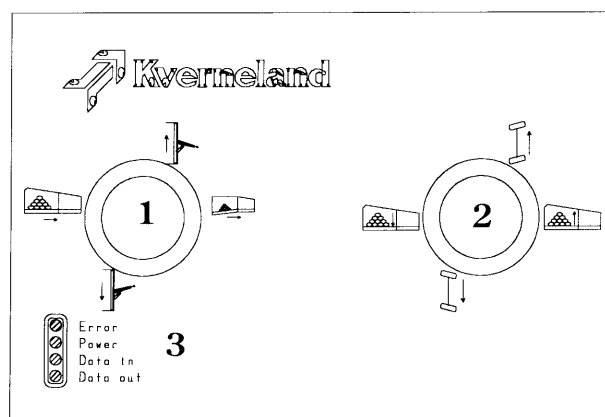

Fig. 28-1
- Control panel picking table (Fig. 28-1)
(Fig. 28-1) This unit have functions for positioning of wheels, drawbar, and operating the main bunker.